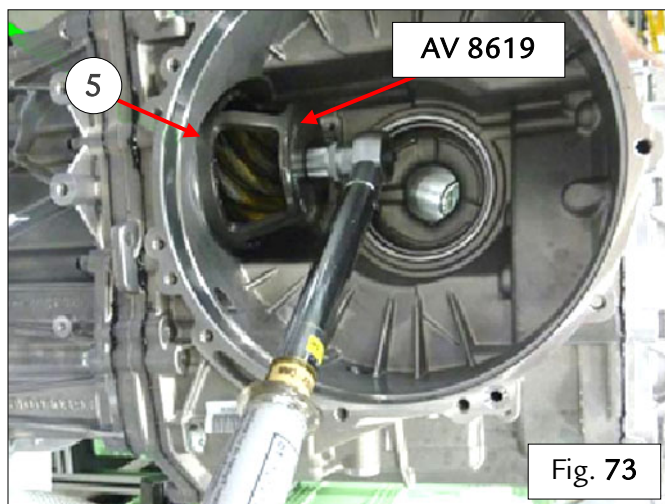

Fig. 73
- Hand-tighten the new ring nut (5) in the relative seat – Fig. 73.
- Using the tool 95978619 (AV 8619) tighten the new ring nut (5) fastening the plate to the differential housing to a torque of 30 Nm – Fig. 73.